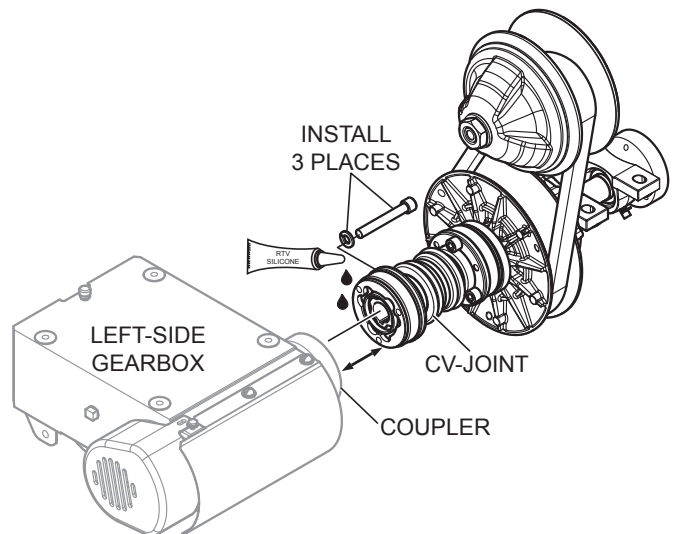

Figure 25. CV-Joint Installation
1. Apply a thin coat of RTV silicone (Figure 25) to the mating surfaces of the CV-joint and left-side gearbox coupler.
2. Using a 1/4" Allen wrench, install the 3 bolts and lock washers that secure the CV-joint (Figure 25) to the left-side gearbox.